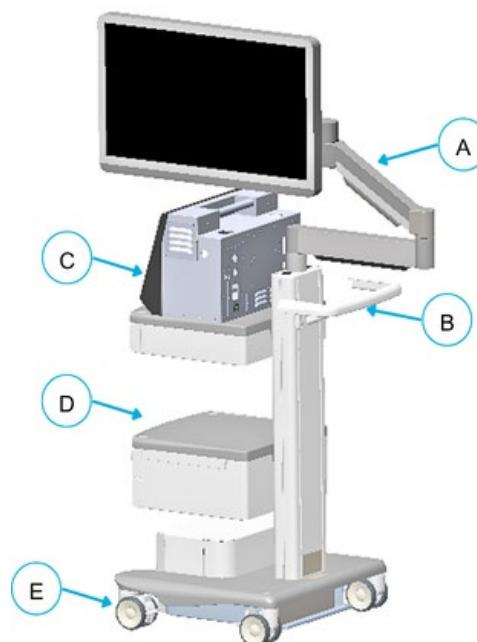

Figure 10-1: Cart and Monitor Transport Position
1. When moving the Cart and Monitor, utilize the transport configuration outlined in **Figure 10-1**:
- Fold the Monitor Arm in with the Monitor positioned above the Cart (A)
- Position the Monitor perpendicular to the handle grip (B) location
- Place the Generator on the top shelf (C)
- Load the drawers and shelves (D) to the marked rating or less
- Unlock all wheels (E)